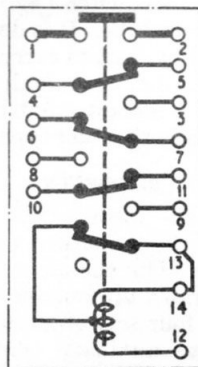

Fig. 2. Circuit diagram
4. The circuit diagram of the switch is shown in *fig. 2*. The switch will operate in any position. It is weatherproof and flameproof, but it is recommended that it be kept away from any position where it would come into contact with excessive moisture of any kind. In positions subject to heavy vibration it should be mounted on rubber, or some other resilient mounting.